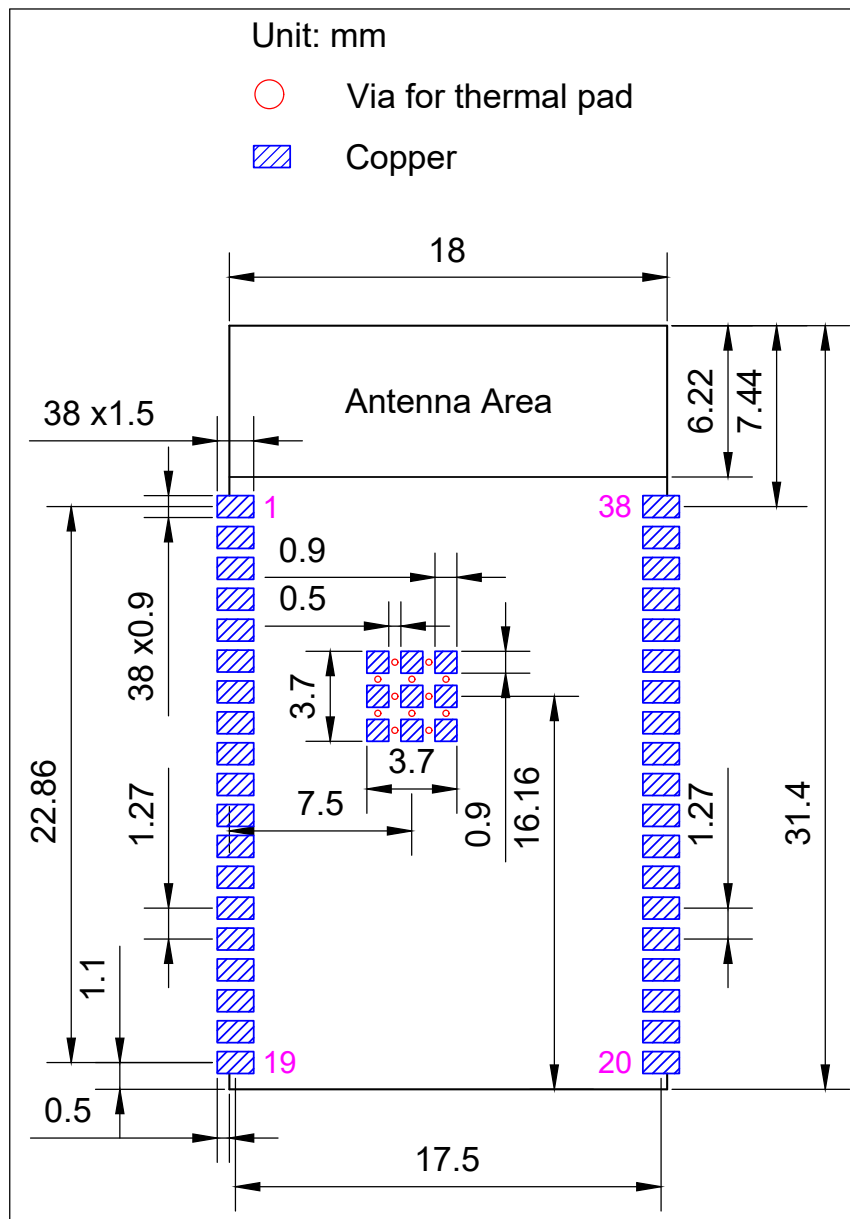

Figure 14: Recommended PCB Land Pattern
- Figures for recommended PCB land patterns with all the dimensions needed for PCB design. See Figure 14 *Recommended PCB Land Pattern*.
- Source files of recommended PCB land patterns to measure dimensions not covered in Figure 14. You can view the source files for ESP32-WROVER-E and ESP32-WROVER-IE with Autodesk Viewer.